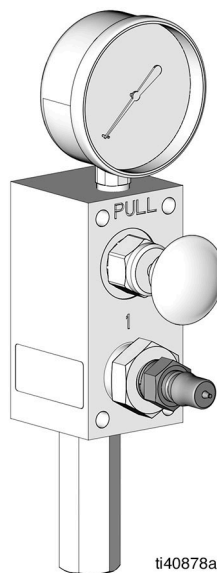

FIG. 29
- Fill the pump with grease through the grease zerk (FIG. 29).
- If using an Auto-Fill Shut Off pump, fill at the remote manifold (FIG. 29).